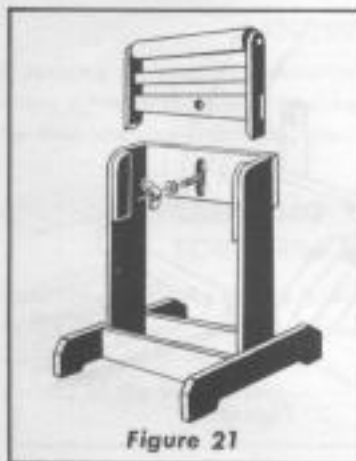

Figure 21
6. Do not leave a long board unsupported so that the spring of the board causes it to shift on the table. Use a support to catch end of board behind the blade. If board is quite long, use another support in front of saw blade. (See figure 21.)